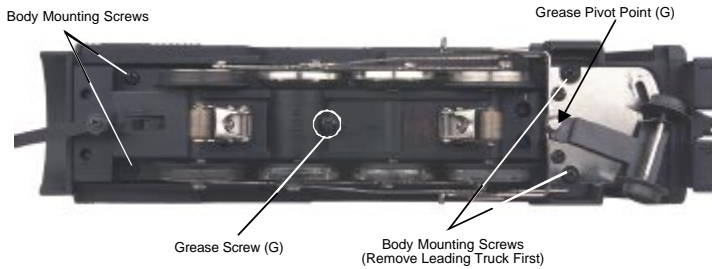

Figure 6: Removing The Body And Lubricating The Grease Points
2. Remove the boiler by removing the body mounting screws shown in Fig. 6
3. Remove the Phillips screw (marked “GREASE”) located at each set of wheels (Fig. 6).
You should also grease the leading and trailing locomotive truck tongues to enhance their ability to slide on the chassis. Follow the grease points shown on Fig. 6.
1. To replace the headlight in this model you will need to follow the disassembly instructions for greasing the engine in figure 6 on pg. 13. Once the boiler has been removed you can access the headlight (see figure 8).
heating element. To remove the smoke unit you will first have to remove the boiler shell (by removing the body mounting screws shown in Fig. 6 on pg. 13).